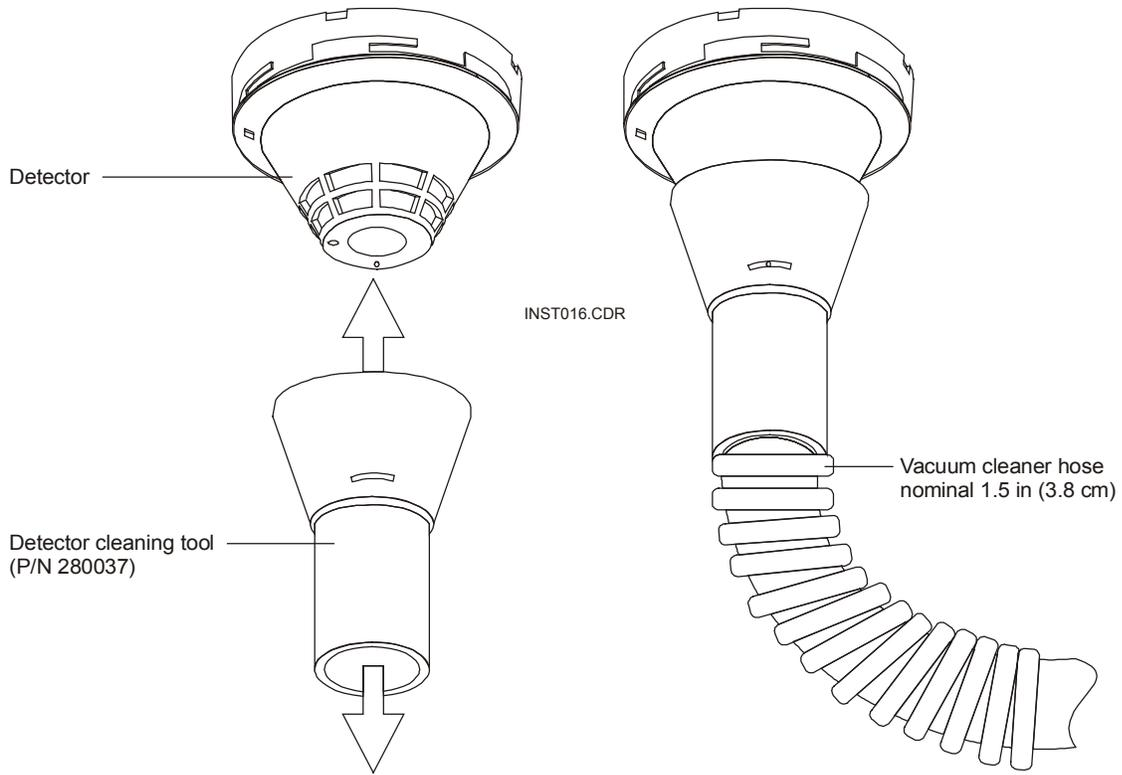

Figure 4-11: Detector cleaning tool
3. Install the Detector Cleaning Tool on the vacuum hose (Figure 4-11).